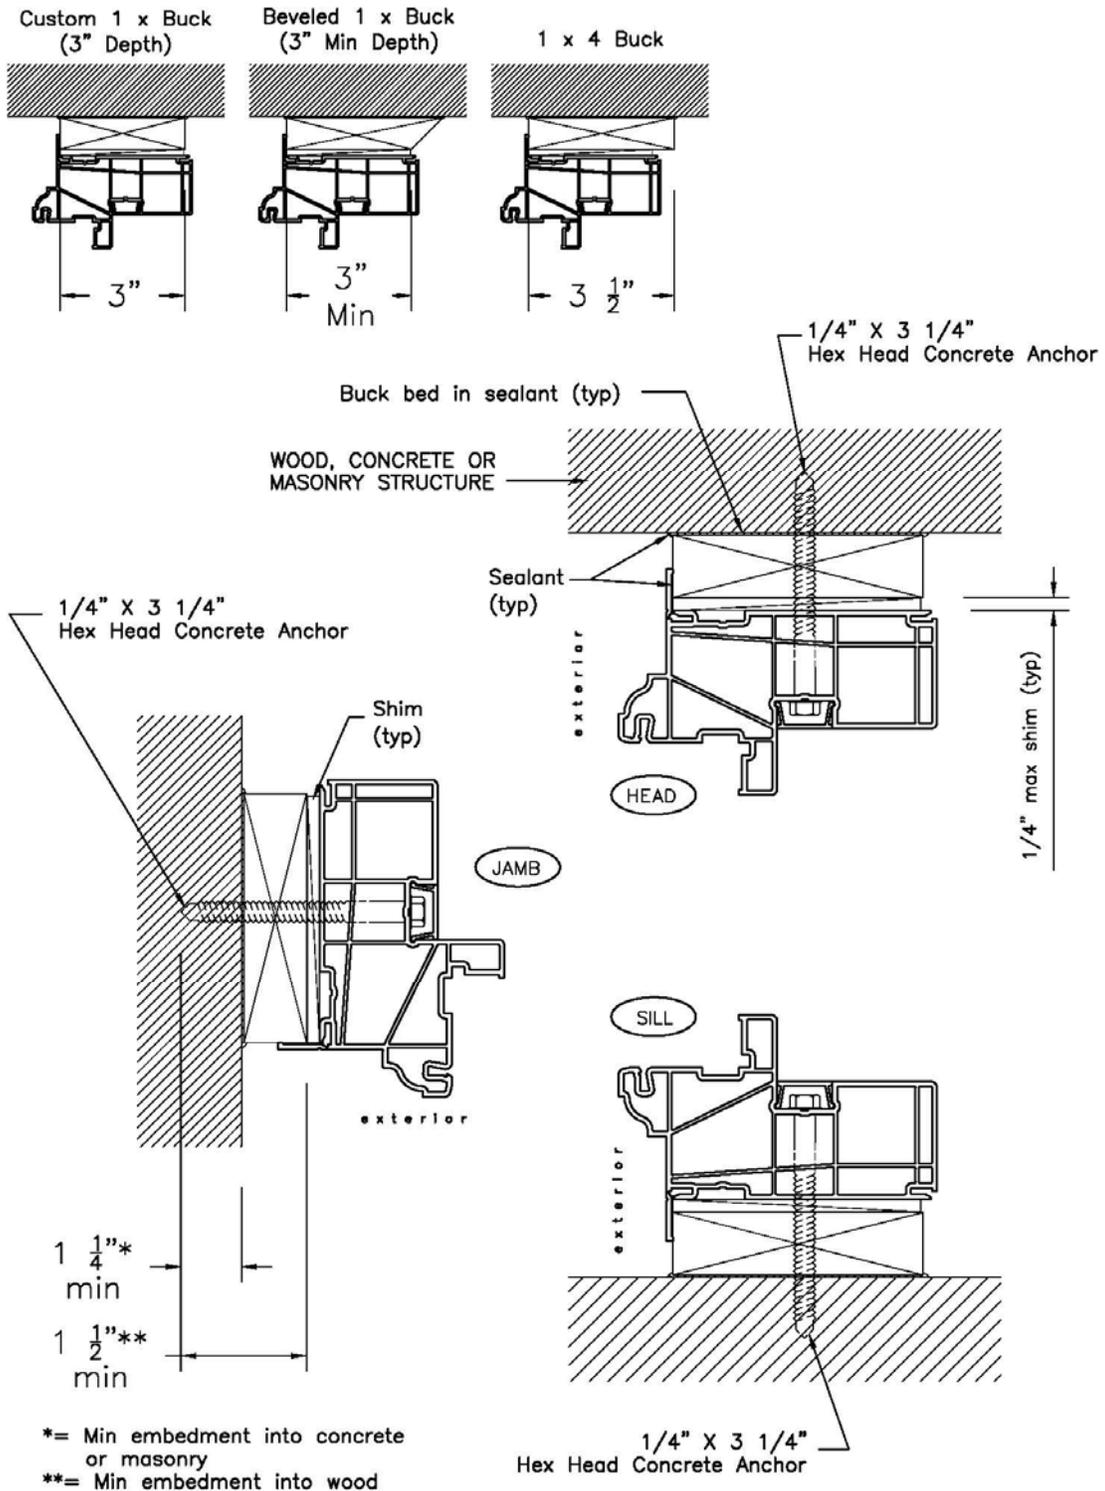

Figure 4: Installation type "A" using 1 x bucks
2. If wood bucks are being used, make sure they are of the correct size and type for the installation method being used (see figures 4 and 5 - Installations Types A and B). Verify that wood bucks are plumb, level and square. Note that Installation Type C (Equal/Flush Leg) does not require a wood buck.
5. Temporarily secure window frame using installation screws as selected from the approval documents for your specific application (see figures 4 – 6). To simplify the pre-installation process, you may want to use a smaller temporary screw such as a #12 Sheet Metal Screw and only penetrate the wood. Shim every installation screw snugly (shim space should not exceed 1/4"). Temporarily secure the window with one screw at each end of jamb